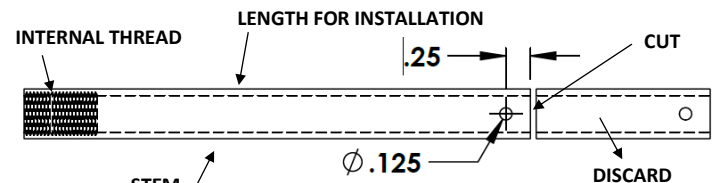

Fig. 3
2. **CUT STEM TO LENGTH (OPTIONAL) Fig. 3**